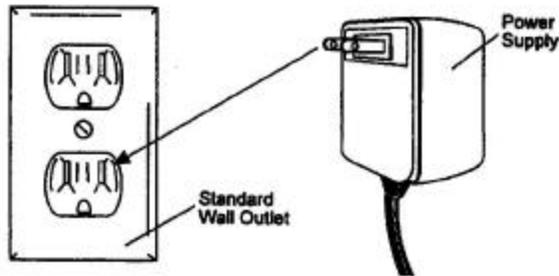

Figure 12: Power Supply Attachment
1. Plug the terminal's power supply into the wall outlet. Refer to Figure 12. Do not plug the module's power pin into the terminal's power plug at this time.